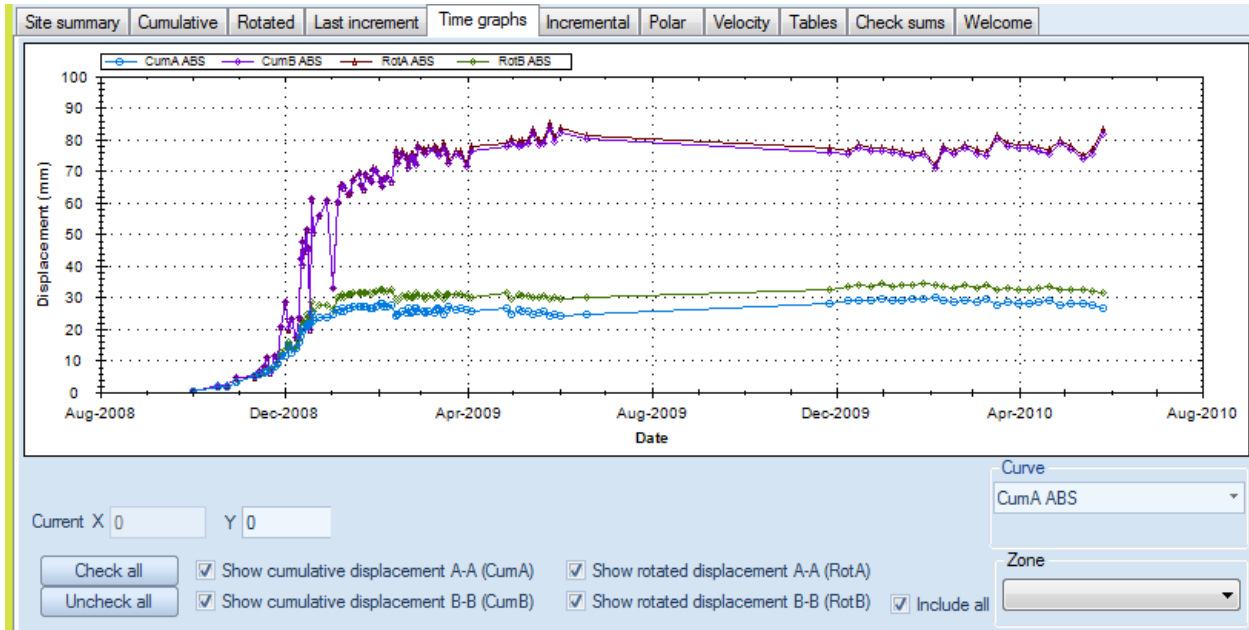

Figure 7.8: Time graphs for current inclinometer
- **Time graphs tab:** These are maximum displacement vs. time graphs (Fig. 7.8)